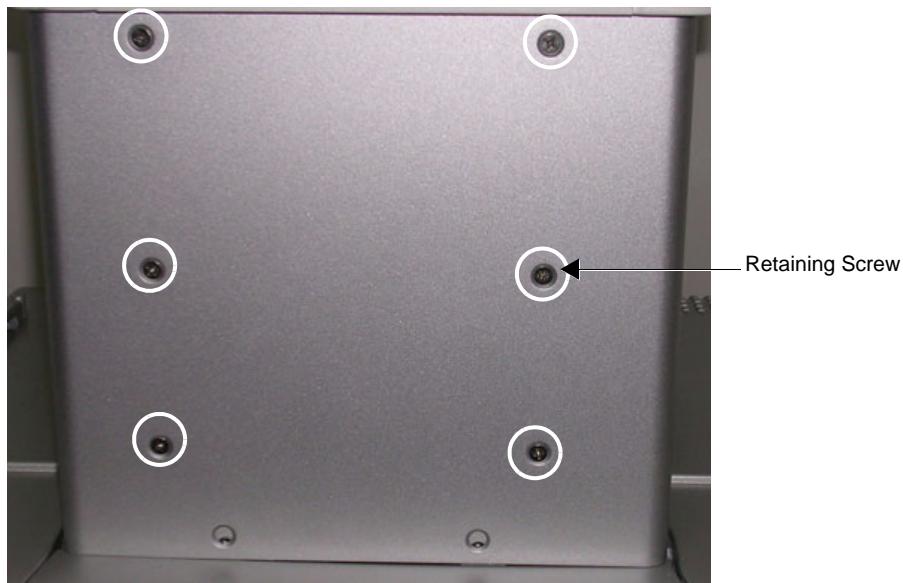

Figure 8-82 Lower Cover (Rear) Removal
Remove six retaining screws of the lower cover (rear) and while supporting the cover with one hand, gently remove the cover - see Figure 8-82).
- 1) Return the cover to the correct position on the rear of the SafeLock Cart - see Figure 8-82.